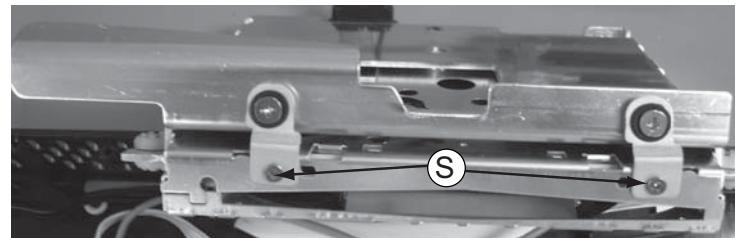

Figure 19
- 1) Loosen 4 screws "S" & "R" to remove Blu-ray Loader bracket as show in figure 19 & 20.